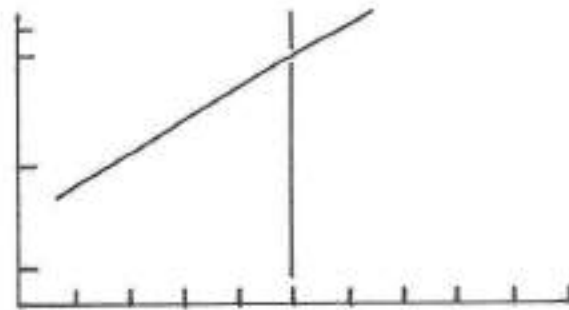

Figure 7-4. PPM Display w/Smooth Risetime
13. Adjust A5R30 CW until the risetime of the displayed pulse is smooth (see Figure 7-4).